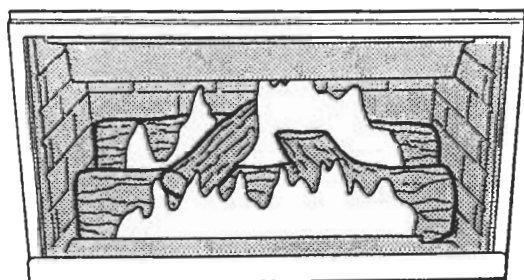

Fig. 22 BURNER FLAMES WRONG
17.1 A periodic visual check of the pilot and burner flames should be made (see figs 22 & 22a).